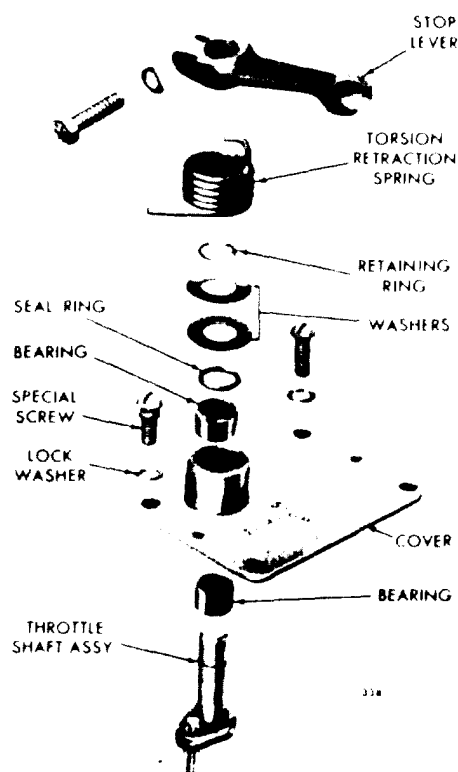

Figure 11C-62. Governor Cover Details
1. Disassemble the governor cover (Figure 11C-62).